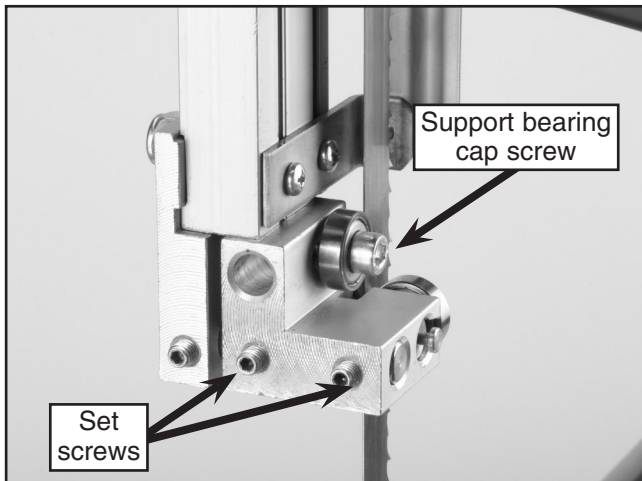

Figure 9. Blade guide assembly (rear view).
- Loosen the two set screws shown in **Figure 9** with the 3mm hex wrench, and adjust the blade guide assembly until the support bearing is centered behind the blade, then tighten the set screws.